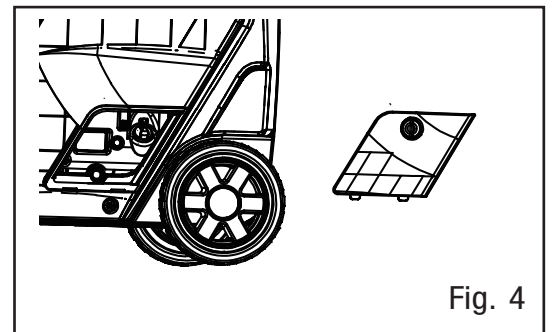

Fig. 4
2. Unscrew the oil access cover knob, and remove the cover from the side panel (Fig. 4). Unscrew the oil dipstick from the engine.